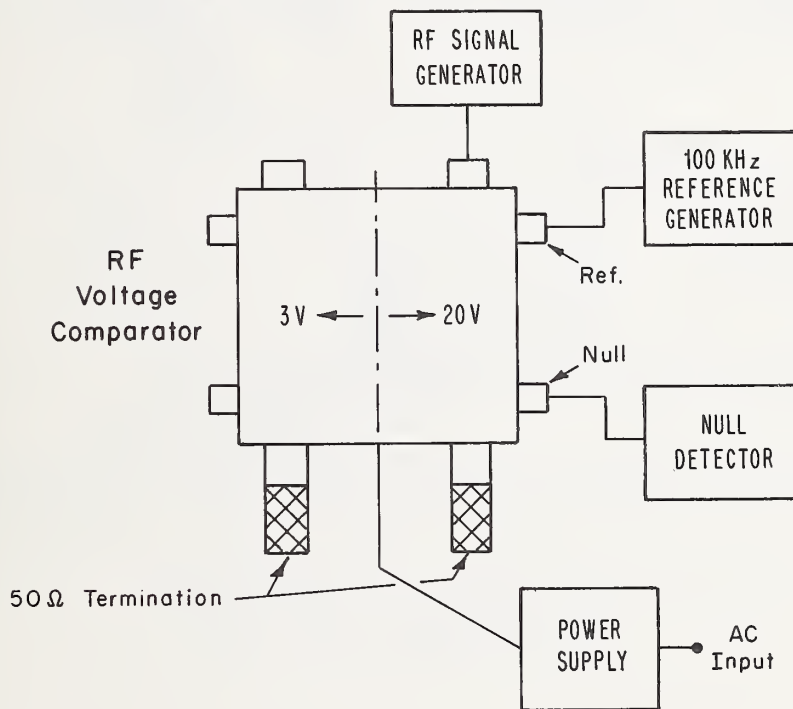

Figure 8. Block Diagram for Calibration of RF Signal Generators (3 - 20 V)
- b. Connect the equipment as shown in figure 8.